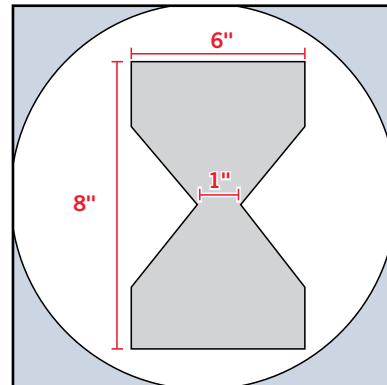
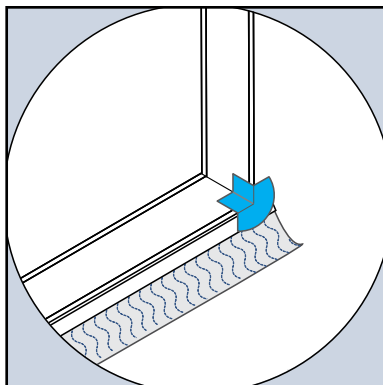

Fig. 6
Fig. 9
- C. To properly flash the sill, cut and install corner patch flashing (Fig. 6, 7, 8) or use Typar Flex Flashings (Fig. 9, 10).